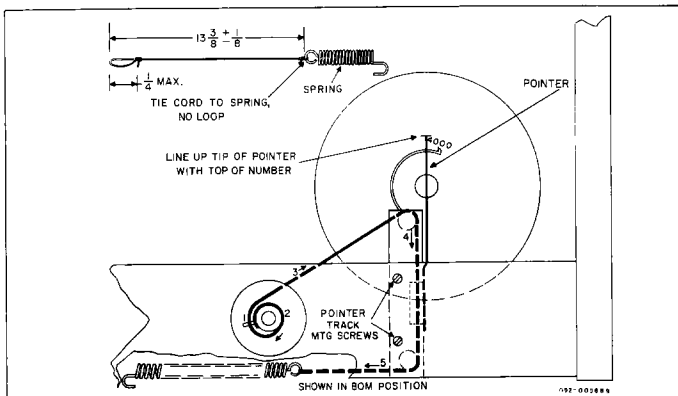

Figure 15. Dial Cord Restringing.
3. Make up dial cord as shown in figure 15.
5. Place the loop at the end of the dial cord over the pin (1) on the drum. Following the numerical sequence and
arrows as shown in figure 15, string the dial cord and anchor the spring in the chassis hole provided. Select the spring in the chassis hole providing the required tension.